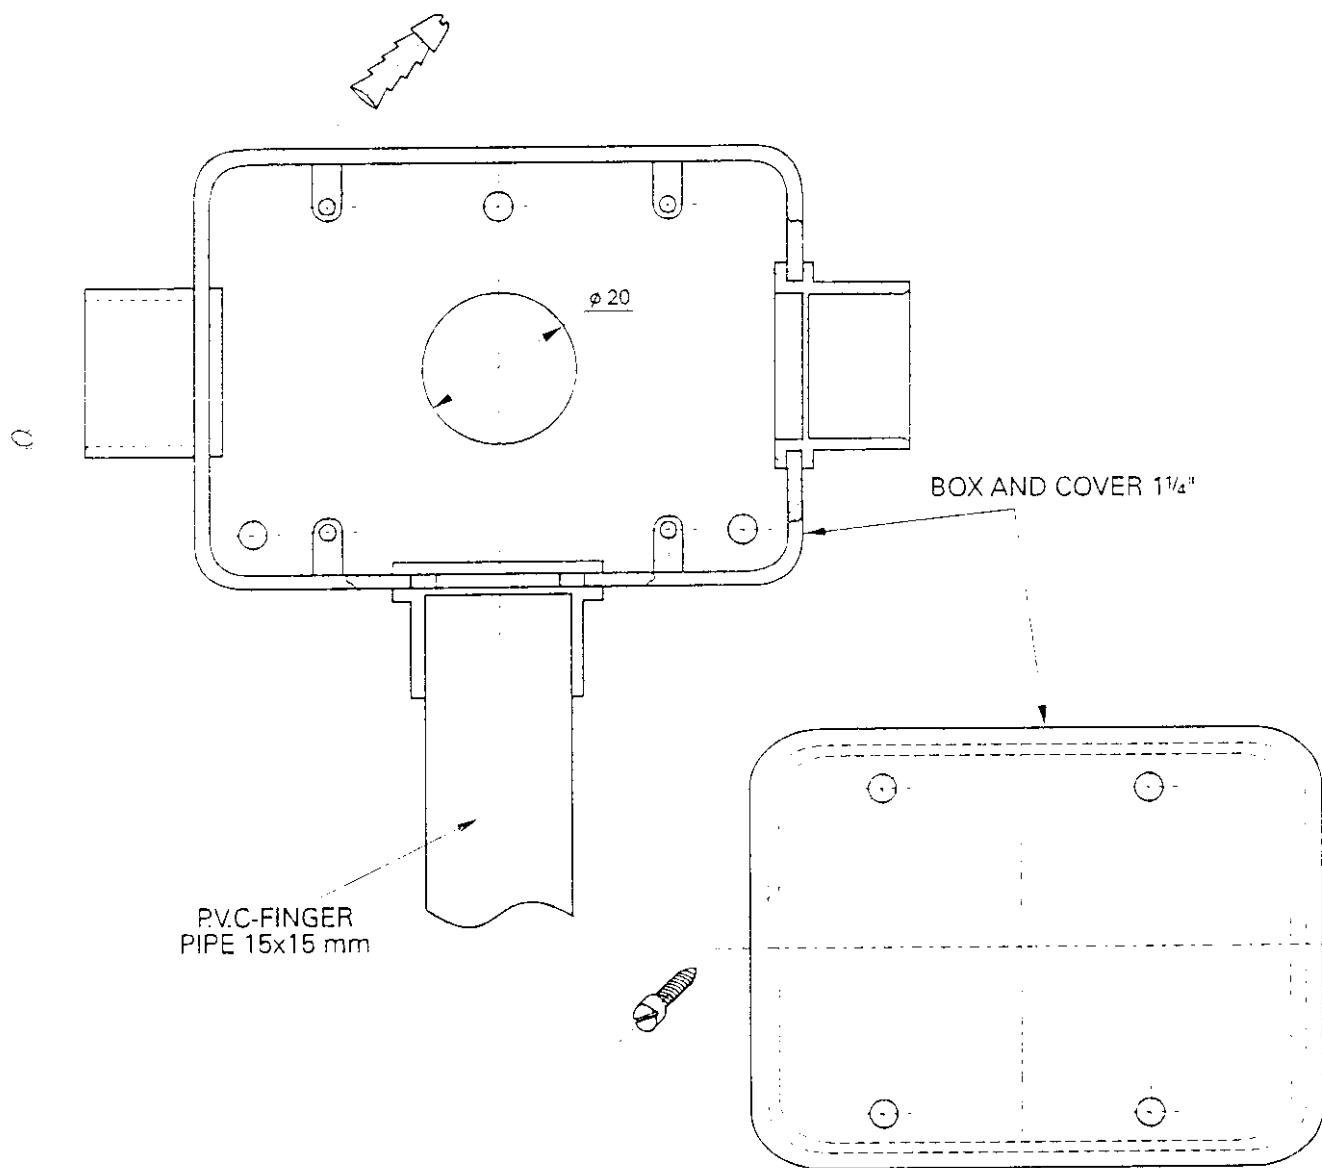
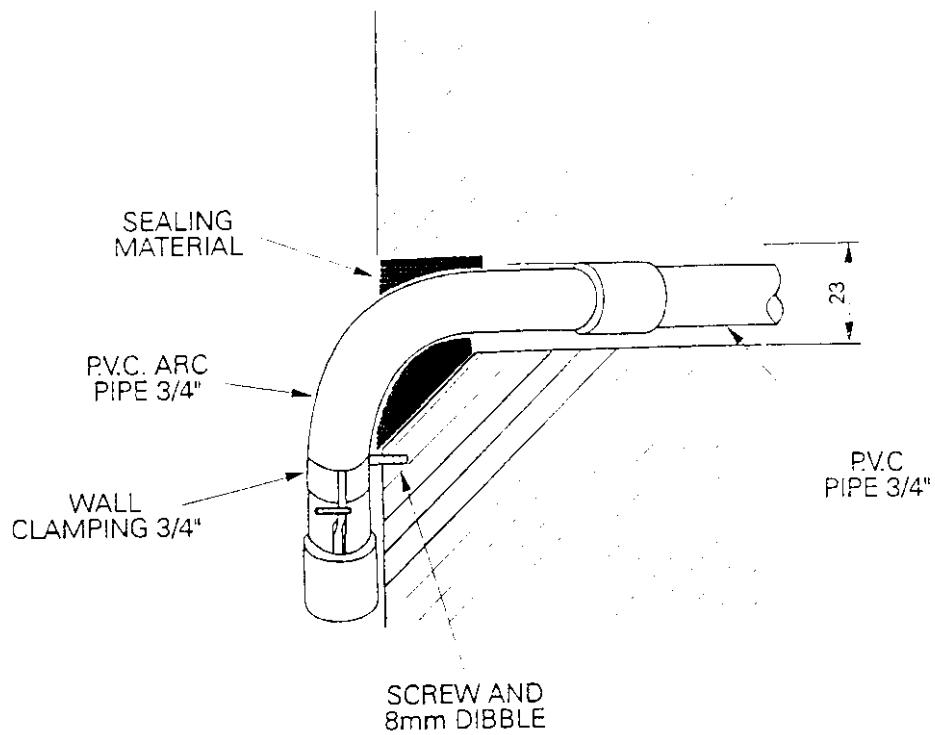
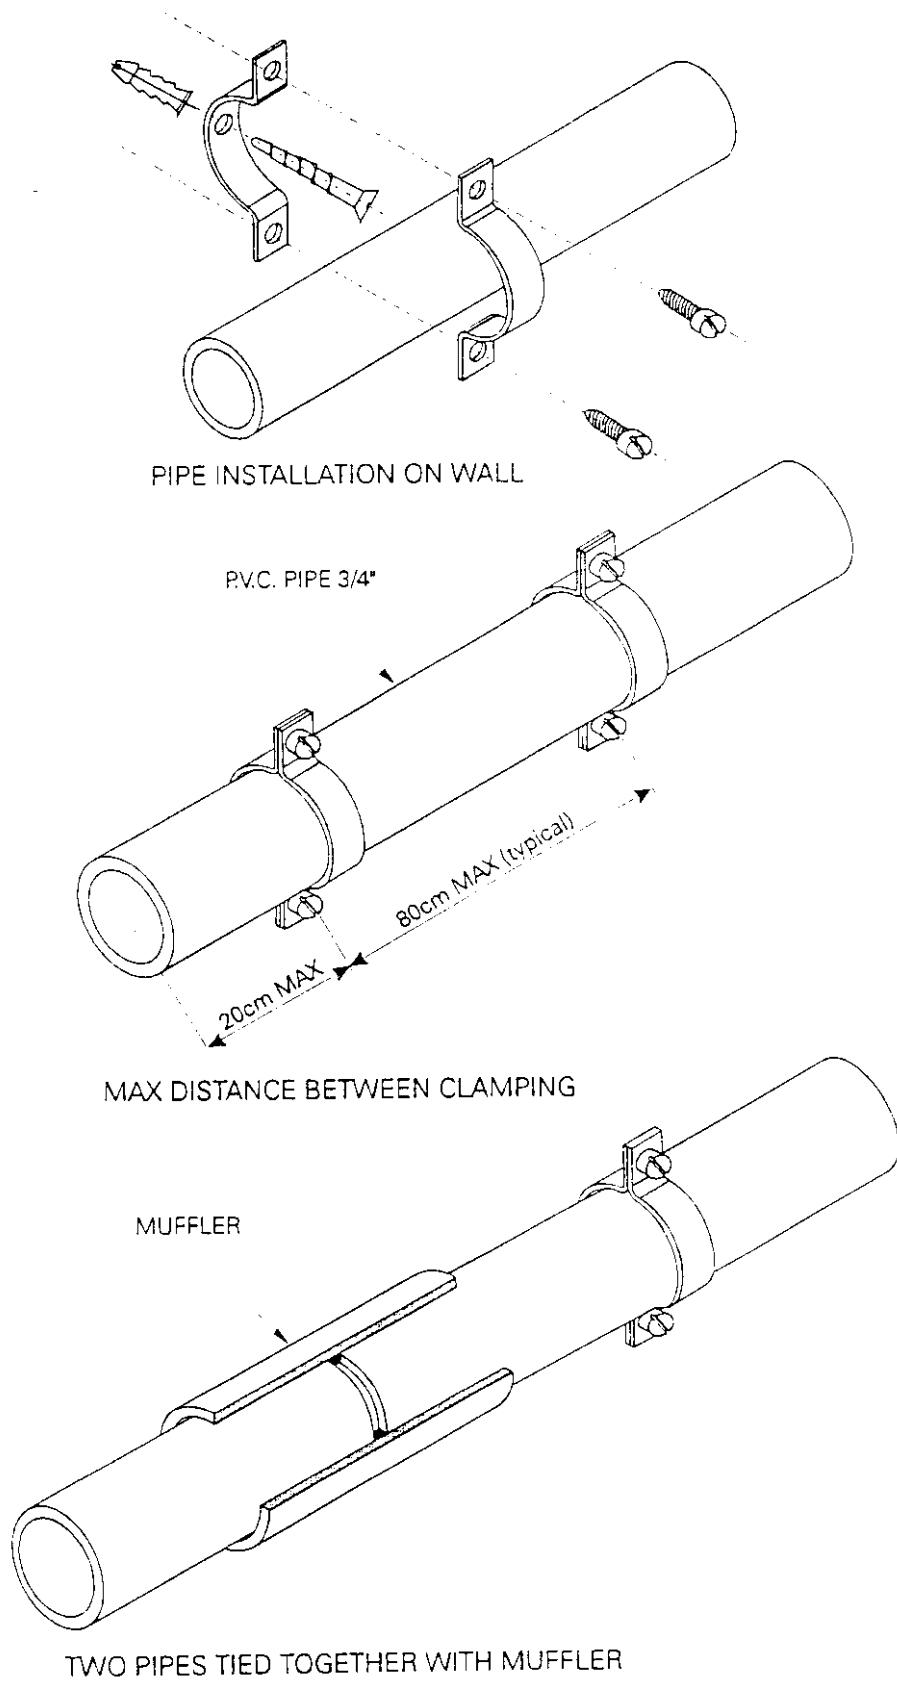

Figure 5-4. Distribution Box
Figure 5-5. FAU Outdoor Installation
Figure 5-6. PVC Pipe Installation
- Distribution Box (see Figure 5-4).
- PVC Arc Pipe (see Figure 5-5).
- PVC Pipe (see Figure 5-6).
Figure 5-4 shows a distribution box and Figure 5-5 shows how FAU outdoor installation is accomplished using PVC piping and sealant. Pipe installation onto a wall and PVC cable channeling are illustrated by Figures 5-6 and 5-7 respectively.